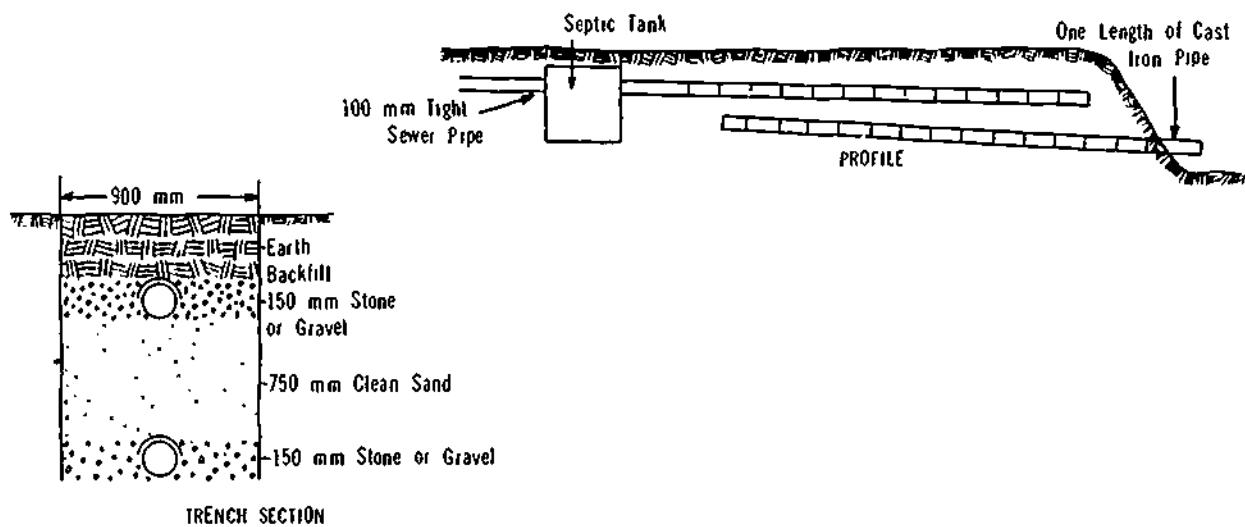

Figure 24-18. Artificial Sand Filter
c) Artificial sand filters are permitted in some localities where the filtered effluent may be discharged into a permissible natural outlet. The sand around the upper distributing tile (Figure 24-18) may become clogged and require replacement from time to time. A minimum of 760 mm of sand is necessary to filter the effluent sufficiently before it enters the lower line of tile (one line of tile is directly above the other). The profile or longitudinal section shows the relative positions of the tile in the hillside, with the cast iron pipe projecting into the gully. The trench section at the left of Figure 24-18 illustrates how the field tiles with covered open-end joints are arranged in a bed or stone with a layer of sand between.